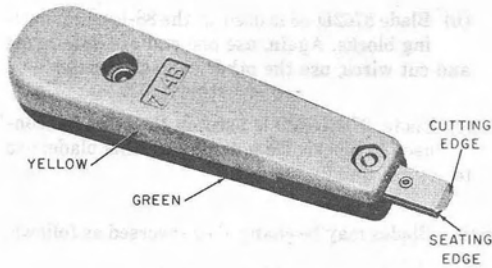

Fig. 8— Φ 714B Tool
1.02 This section is reissued to add reference to the D impact tool (AT-8762) and delete reference to the B impact tool. The 714B tool is changed in Fig. 8, 13, 14, 15, and 16. Revision arrows are used to emphasize the more significant changes.
3.01 All terminations on the 66-type connecting blocks described in Part 2 should be made with the 714B tool (Fig. 8) or Φ D impact tool AT-8762.